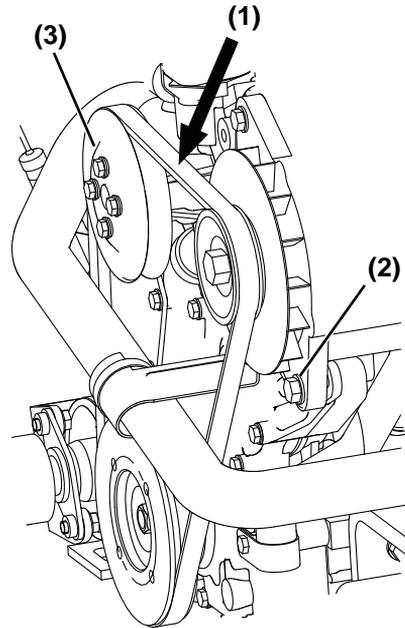

Figure 3
2. Check the belt by pushing on the middle of the belt (**Figure 3, (1)**) with your finger.
3. Loosen the alternator bolt **(Figure 3, (2))** and move the alternator to adjust the V-belt tension.
Note: If replacing the V-belt, loosen the V-pulley **(Figure 3, (3))** of the coolant pump to remove the V-belt.